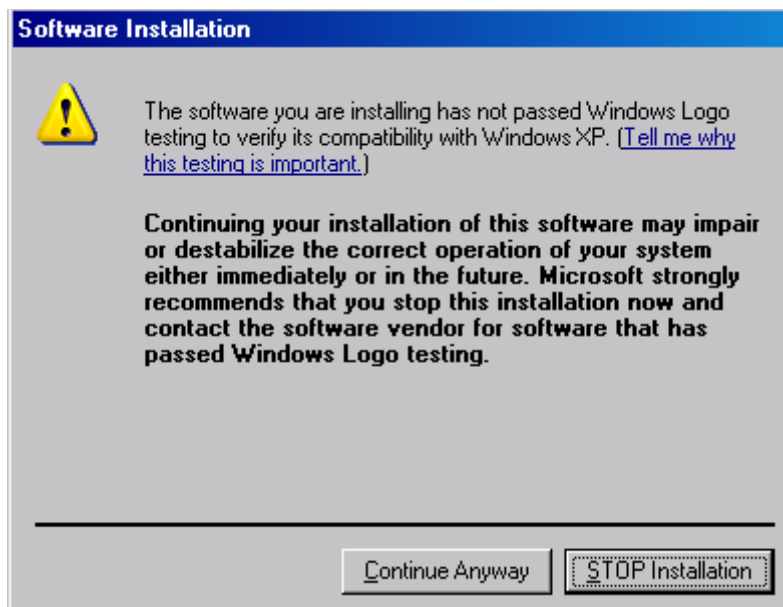
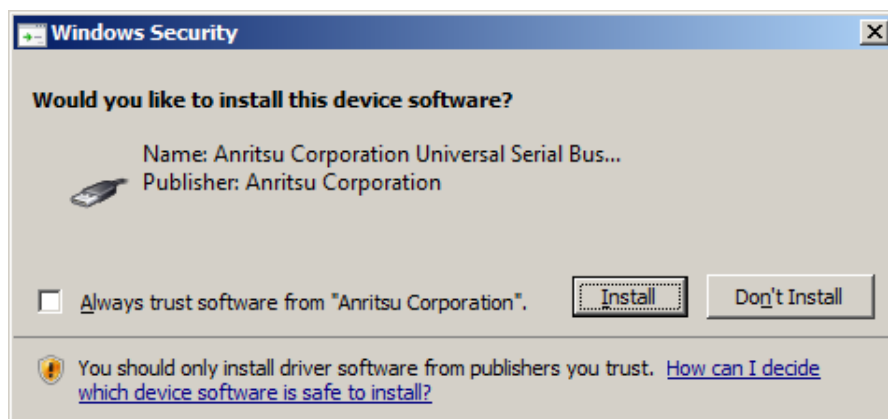

Figure 6.2-2 Confirmation Dialog of USB Driver Installation (2)
Figure 6.2-3 Confirmation Dialog of USB Driver Installation (3)
2. Figure 6.2-2 is displayed when the installation is in progress. Click [Continue Anyway] to continue the installation procedures.
3. If MP1800A-x07 is installed, you will see the confirmation message shown in Figure 6.2-3.
The screens shown in Figure 6.2-2 and Figure 6.2-3 may not be displayed on the front page. If software installations take a long time, check that these screens are hidden at the back of the other screen.